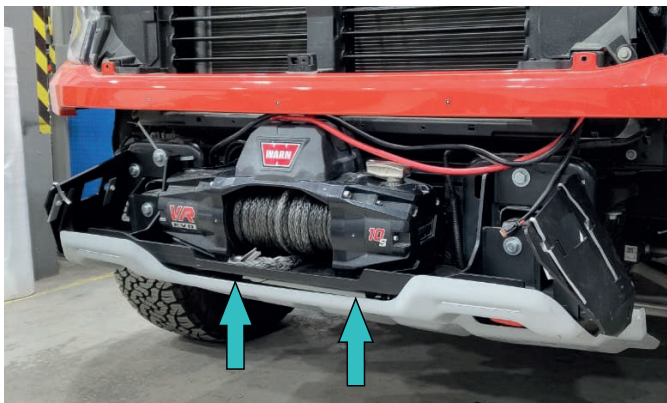

Fig.36
35. Install the winch and fix it using bolts and nuts that are included with the winch (fig.36).